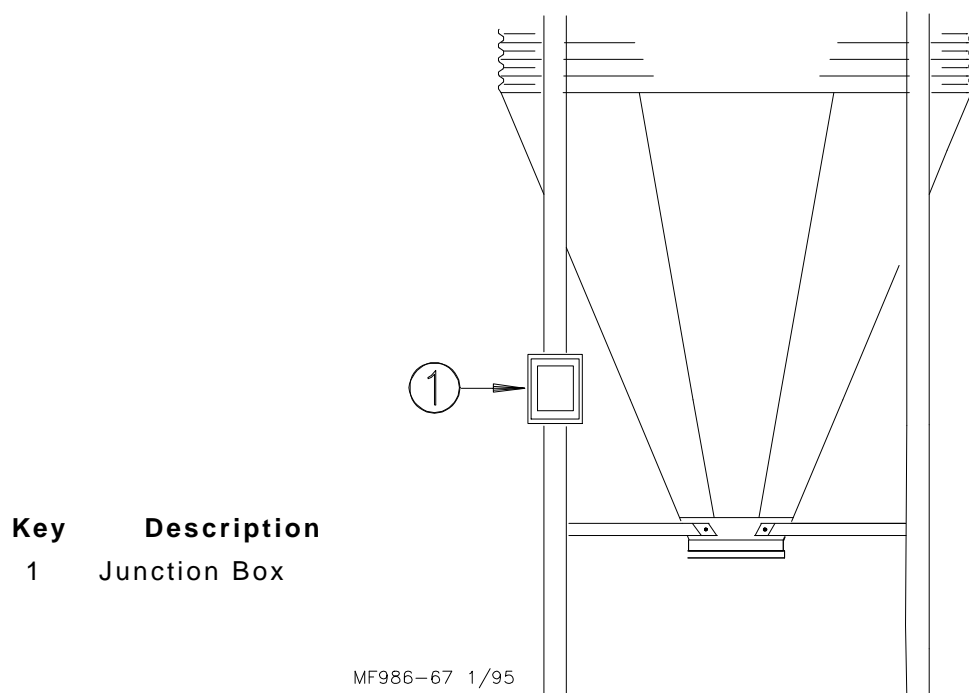

Figure 59. Junction Box Mounting (Side View)
9. Mount the Junction Box to the bin leg, using hardware supplied. See **Figure 59**.